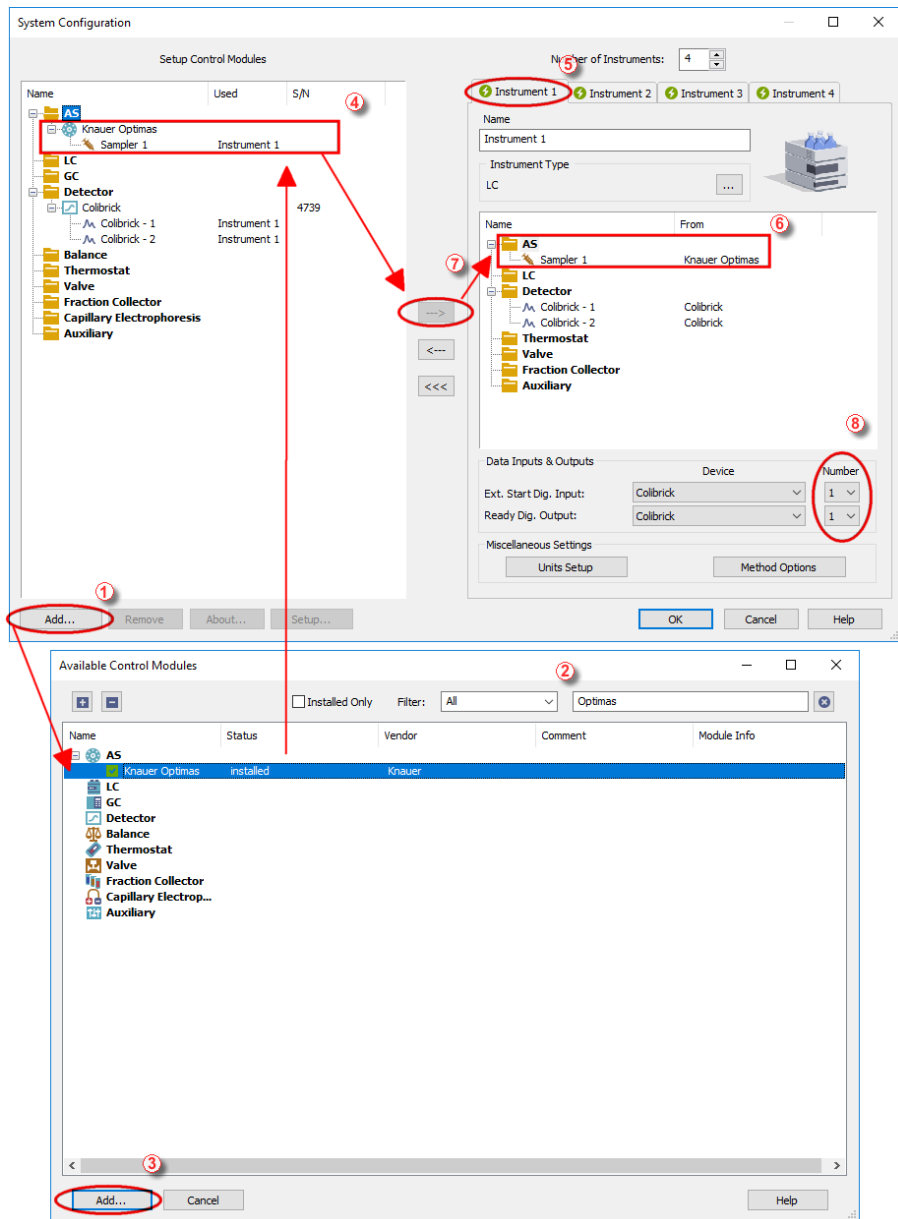

Fig 4: System Configuration
- Press the **Add** button ① (see **Fig 4** on pg 7.) to invoke the **Available Control Modules** dialog.
- You can specify the searching filter ② to simplify the finding of the driver.
- Select the **Optimas** sampler and press the **Add** ③ button.